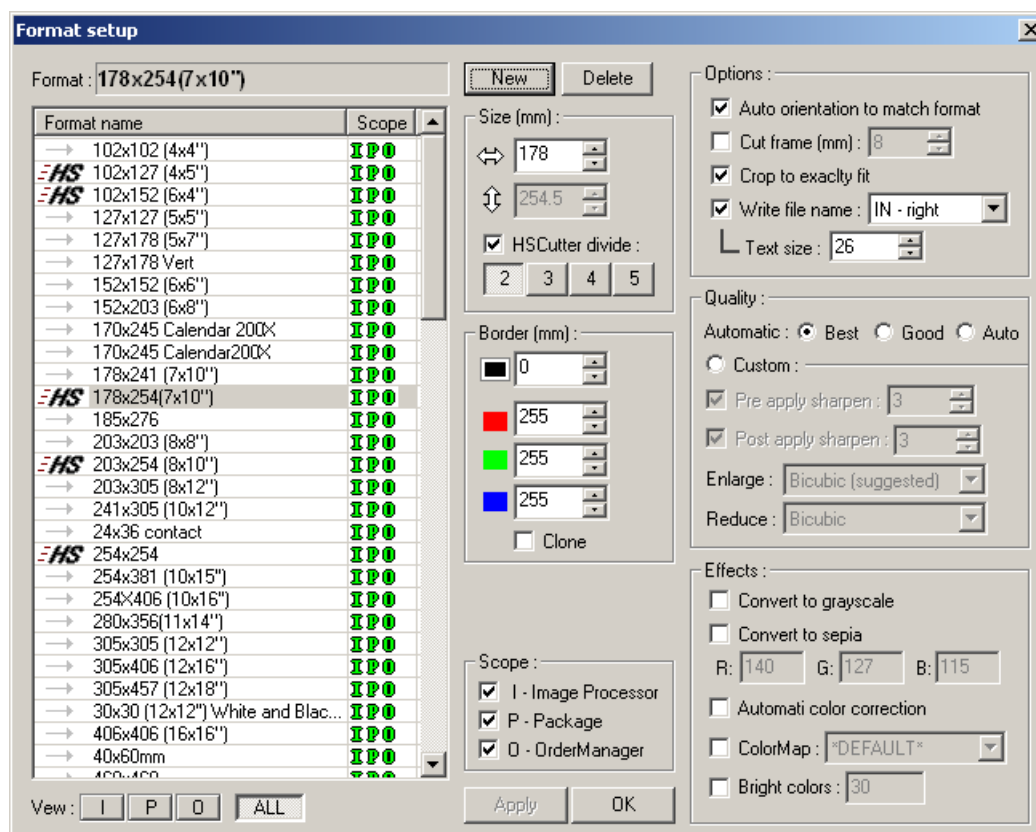

Fig.77 - Format setup dialog
menu item, or select the **Format** button on the **Main Bar** (shown at the left) to let the **Format setup** window (shown in fig. 77 on page 82) appear.
In the following is given the explanation of the fields in the **Options** frame of the **Format setup** window (fig. 77 on page 82).
In the **Quality** frame of the **Format setup** window (fig. 77 on page 82) are found several options allowing to include image enhancement procedures in the format.
An effect, or a group of effects, can be applied to the current format. These ones are listed in the **Effects** frame of the **Format setup** window (fig. 77 on page 82).
- 1) Open the **Format setup** window of fig. 77 on page 82, by selecting: